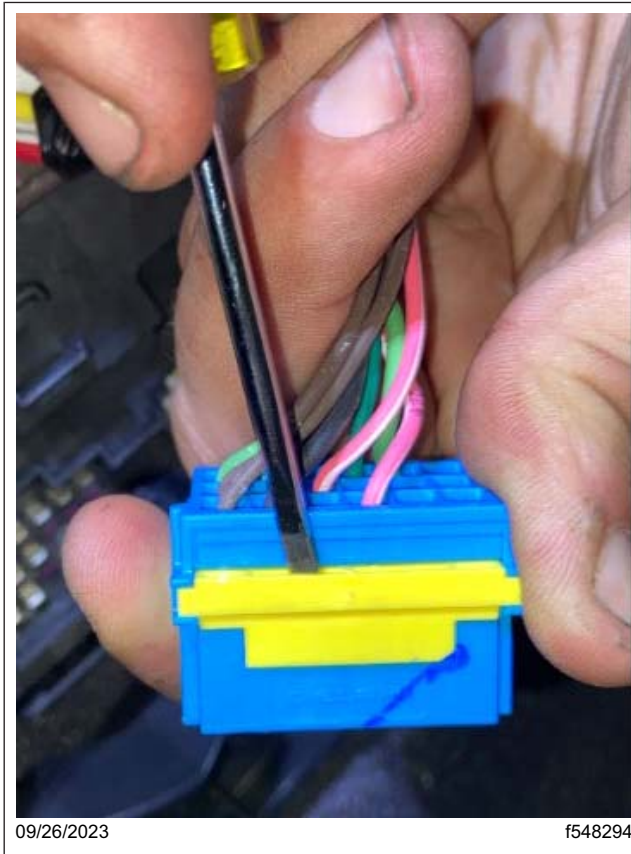

Fig. 26, Releasing the Lock on the SSAM X2 Connector
- 10.2 Gently pry up on the yellow locking tab of the X2 connector as shown in Fig. 26. Note that the lock does not come all the way out.